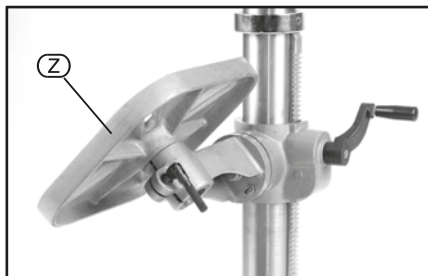

FIG.17
9.4 WORK TABLE ADJUSTMENT - FIGS. 17 - 18